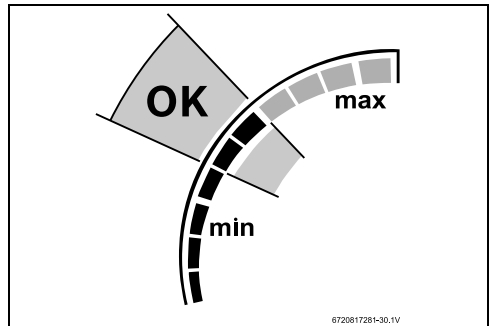

Fig. 57 Power bar middle point
- ▶ Verify if power bar level is at middle point, see fig. 57.